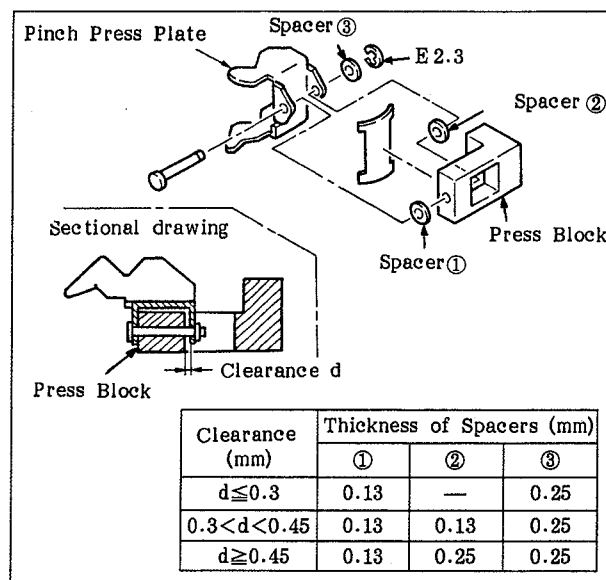

Fig. 6-108 Adjustment of the Position of the Pinch Press Plate
3. Measure clearance  $d$  with a thickness gauge when the pinch press plate is pushed against the press block without inserting a spacer between them as shown in the sectional drawing of Figure 6-108.